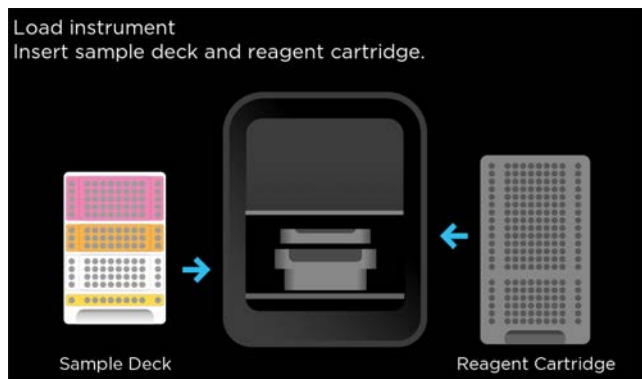

Figure 10. Insert sample deck and reagent cartridge.
4. Insert the reagent cartridge, followed by the sample deck (without the sample deck stand) into the MagicPrep NGS instrument according to the prompt (Figure 10). Insert the sample deck and the reagent cartridge completely until the part ‘clicks’ in place and the images disappear from the screen. Close the door.